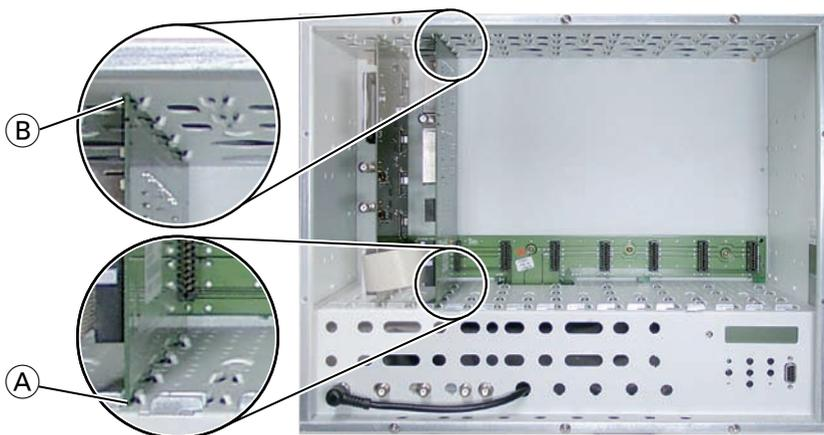

Fig. 2
—> Slots 1 (digital module) and 2 (FM modulator module) are shown in figure 2. The open slot in between (without a contact strip on the board at the rear wall of the housing) is intended for an add-on module (e.g. HAV 160).
- Insert the FM modulator module in grooves (A) and (B) (fig. 2) of an open slot on the right hand side of the associated digital module or an add-on module.